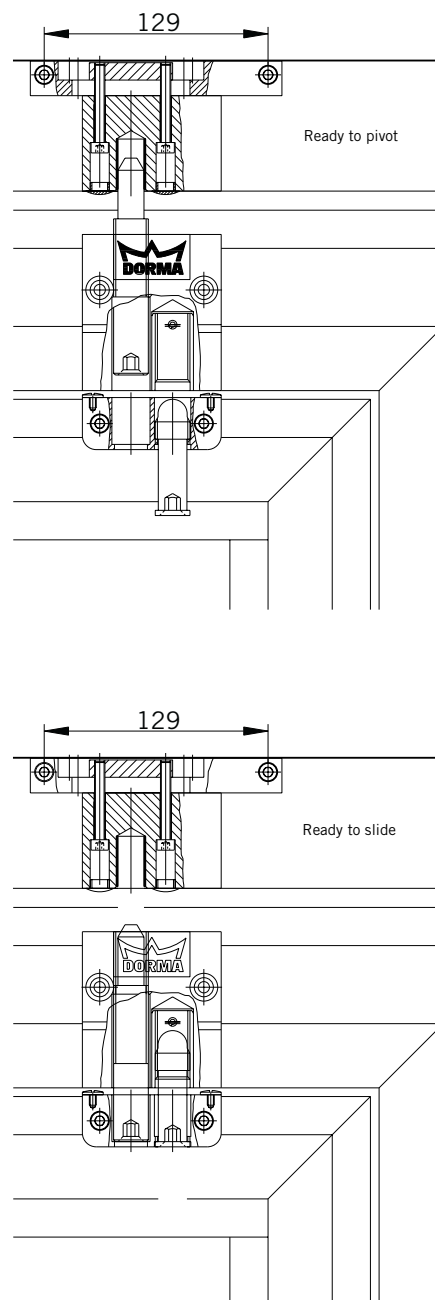

Fig. 5
5. Single and double action pivoting sliding panels (Fig. 5):